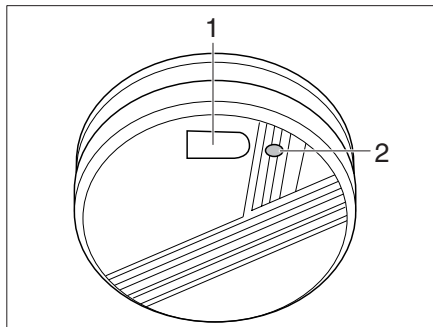

Fig. 174 Smoke Alarm
- ▶ Depress the test button (Fig. 174,1). The red LED (Fig. 174,1) flashes quickly and in the mean while the detector sounds. It means, the detector works well.